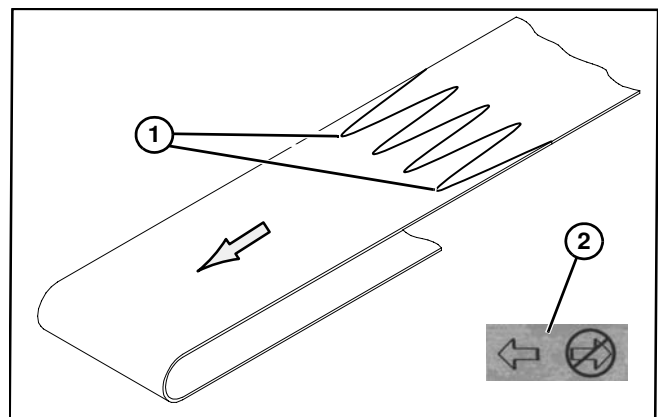

Figure 54
2. Orient belt so splice outer fingers (Figure 54, item 1) point in the direction of belt travel as identified by the conveyor directional label (Figure 54, item 2).